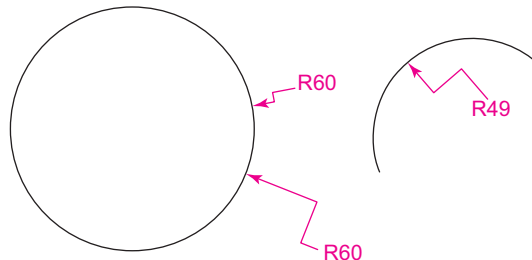

Fig. 6.16 Examples – the **Jogged** tool
The Jogged tool (Fig. 6.16)
1. Draw a circle and an arc as indicated in Fig. 6.16.
The results of placing a jogged dimension on a circle and an arc are shown in Fig. 6.16.